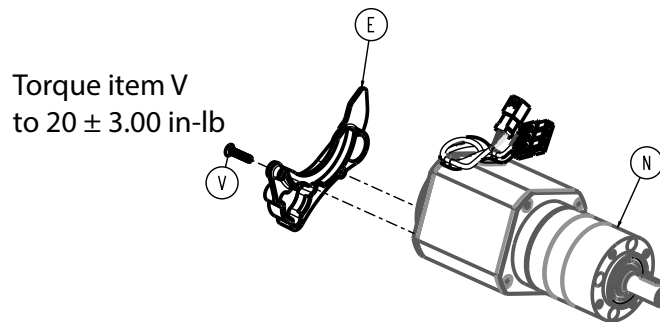

Figure 14 –
5. Using a T20 Torx driver, remove the flat countersunk head cap screw (V) that secures the back bulkhead (E) to the drive motor (N) (Figure 14). Discard the screw.